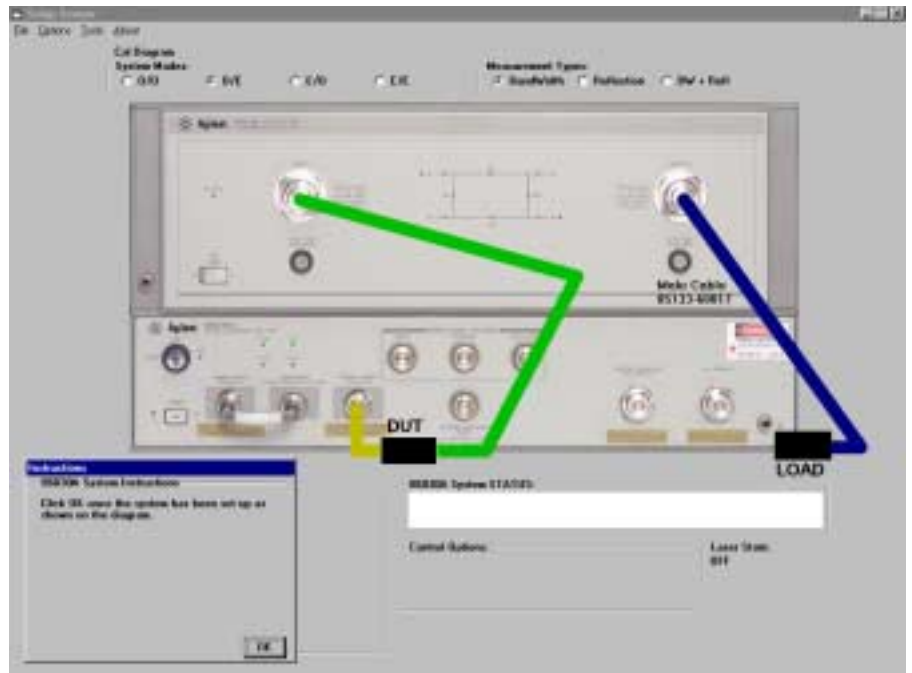

Figure 3-5.
- 19 Connect the equipment as shown in Figure 3-5 then click **OK**.